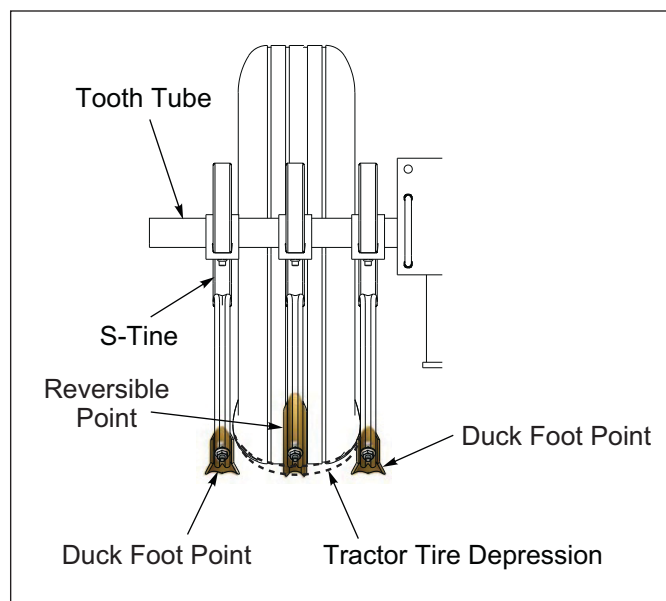

Figure 2-56: S-Tine Point Position
4. Assemble the Points to the S-Tines. The suggested pattern is to assemble the Reversible Point onto the center S-Tine and a Duck Foot Point on the S-Tine on either side of the center S-Tine with 3/8-16 x 1-3/4 Plow Bolt and Flanged Locknut. **See Figure 2-56.**